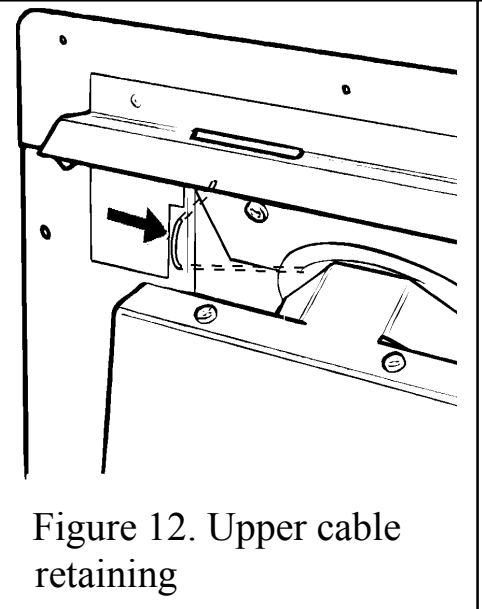

Figure 12. Upper cable retaining
4. The convection box has two holes at each side of the convected air opening. Insert one end of each cable (one cable each side) from the back through the lower of the two holes and return the end through the upper of the holes. See figure 12. Give the cables a pull so that they grip against the convection box flanges.